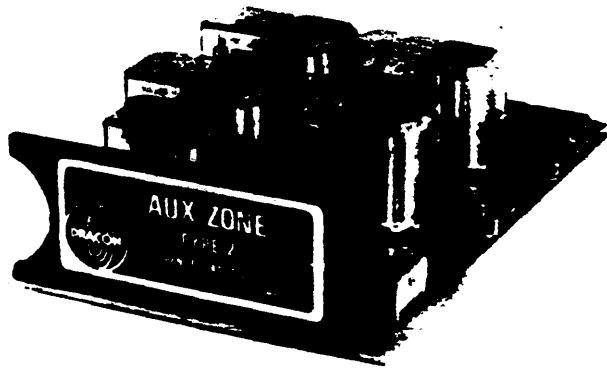

Fig. 13—Type 2 Auxiliary Zone Card
3.43 The Type 2 Auxiliary Zone Card (Fig. 13) provides four zones which have outputs capable of directly driving amplifiers with low-level inputs. The card's 600-ohm low-level balanced outputs are used to drive off-premise amplifiers over standard telephone cable facilities. They may also be used to feed locally-installed amplifiers when additional speaker power is required in a zone. An option switch permits simplexing a ground over the tip and ring to the distant locations to operate a relay or other device controlling the distant amplifiers. Talk-back cannot be provided in zones served by this card.